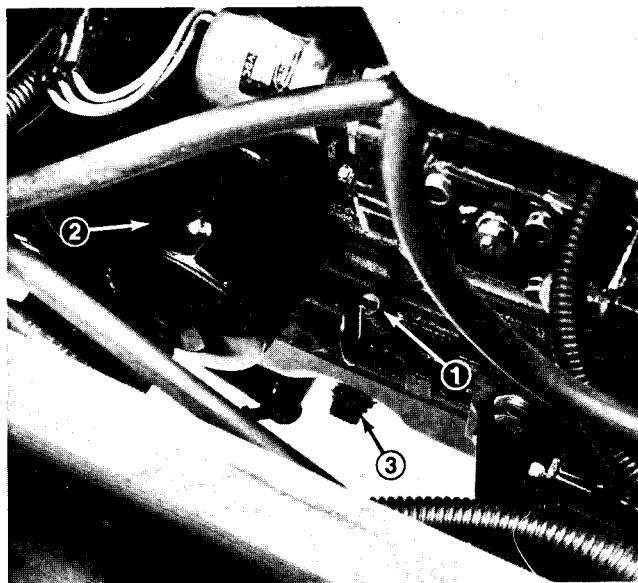

Figure 16
2. Open the hood. Put a drain pan under the engine crankcase drain plug (Fig. 16).
4. Remove the oil drain plug and let the oil flow into the drain pan. Remove and discard the oil filter (Fig. 16).